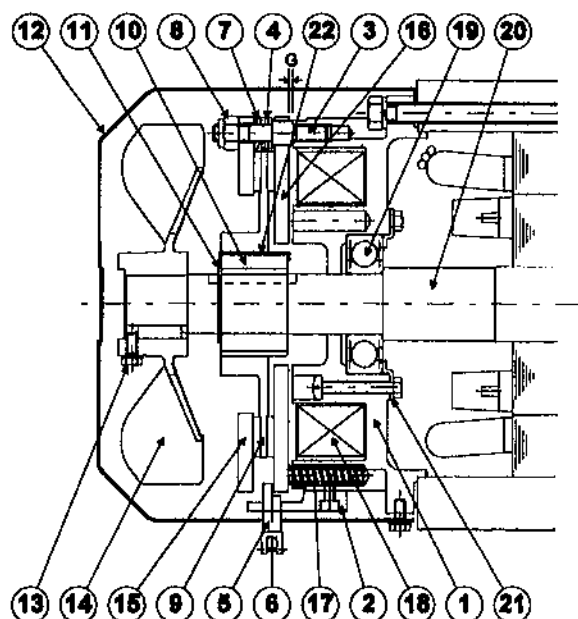

Fig. 10 FB-10B, FB-15B Models
Fig. 9 and Fig. 10 illustrate the construction of the brake. Among the brake parts, stationary core (1), solenoid coil (18), and stud bolt (3) constitute an integral sub-assembly unit. The armature plate (16) is kept from rotating by the stud bolt (3), but moves axially by electromagnetic attraction and the tension of the pressure spring (17). The adjusting washer (4) and spring washer (7) hold the brake shoe (15) against the nut (8) at all times. The brake lining (9) is fit to the hub (10), which is secured to the motor shaft with a key. The solenoid coil is energized via a rectifier provided within the terminal box.